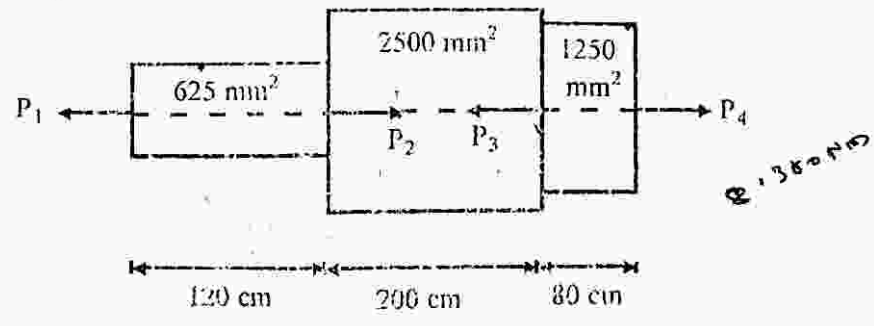

Fig. 2 (b)
- b) Member ABCD subjected to point loads as shown in figure 2 (b). Calculate P_2 necessary for equilibrium, if $P_1 = 45\text{kN}$, $P_3 = 450\text{kN}$ and $P_4 = 130\text{kN}$. Determine total elongation. Take $E = 2.1 \times 10^5 \text{ N/mm}^2$. 6